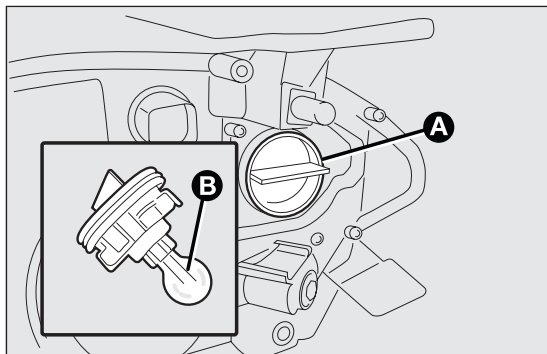

fig. 161
- ☐ remove the bulb B fig. 161 and replace it;